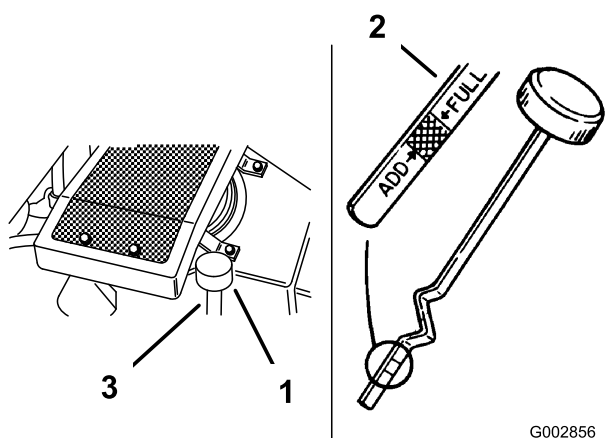

Figure 21
3. Clean around the oil dipstick (Figure 21) so that dirt cannot fall into the filler hole and damage the engine.
4. Unscrew the oil dipstick and wipe the end clean (Figure 21).
5. Slide the oil dipstick fully into the filler tube, but do not thread onto tube (Figure 21).
8. Slowly pour approximately 80% of the specified oil into the filler cap (Figure 21).